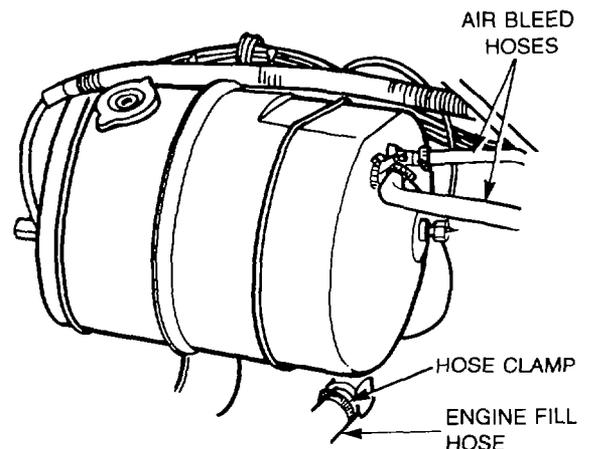

Figure 317 — Engine Fill Hose — Removal
- j. Loosen the hose clamp securing the engine fill hose to the surge tank (see Fig. 317), then remove the hose from the tank union. Plug the hose to prevent coolant loss.